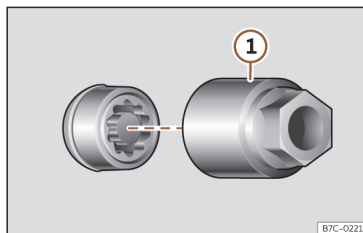

Fig. 241 Anti-theft wheel nut with cap and adapter.
- Insert the special adapter >>> Fig. 241 ① (vehicle tools >>> page 332) onto the anti-theft wheel nut and push it on as far as it will go.